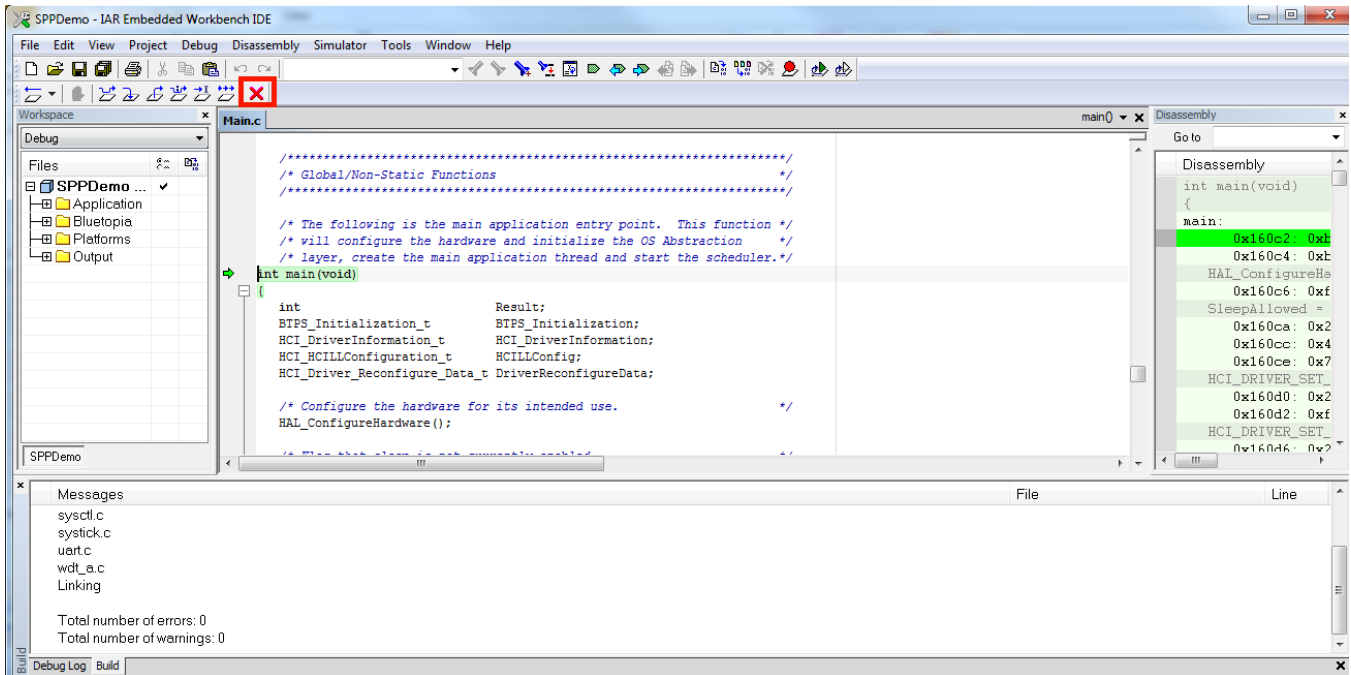

Figure 12. Red X
8. Click the red X in the IAR toolbar to stop debugging (see Figure 12).